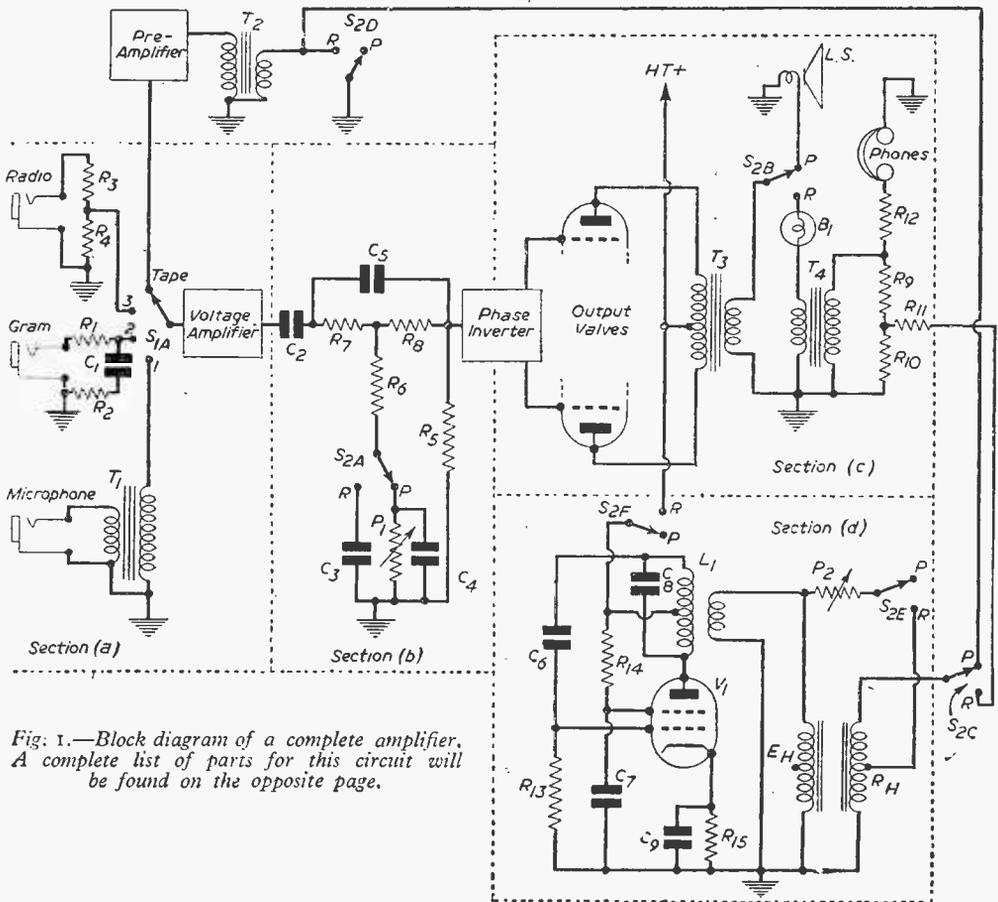

Fig. 1.—Block diagram of a complete amplifier. A complete list of parts for this circuit will be found on the opposite page.
Slight modification of the input circuit is necessary to enable the tape preamplifier to be switched in, and further it is an advantage to have input channels for (1) microphone, (2) gramophone, (3) radio, producing the possibility to take recordings via any of the above mediums, or of their direct amplification. Fig. 1 depicts a block diagram of the amplifier, and is divided into sections. Considering first section (a). The four inputs are selected by the function of a single-pole four-position rotary switch, S1A. With the switch on position 1, the secondary of the microphone transformer, T1 is applied to the input of the main amplifier. It should be noted that the gain of the voltage amplifier
## LIST OF COMPONENTS (Fig. 1)